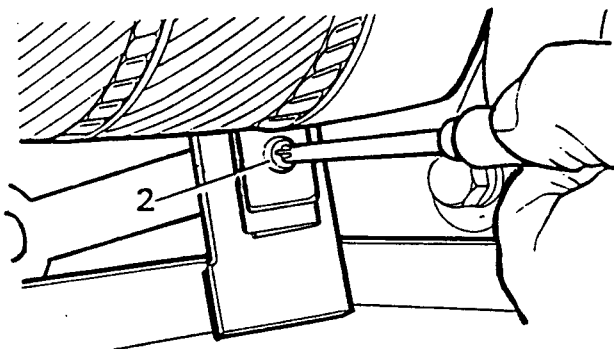

Figure 4
4. Remove the four fasteners securing the seat squab. See Figure 4. Remove the seat squab.